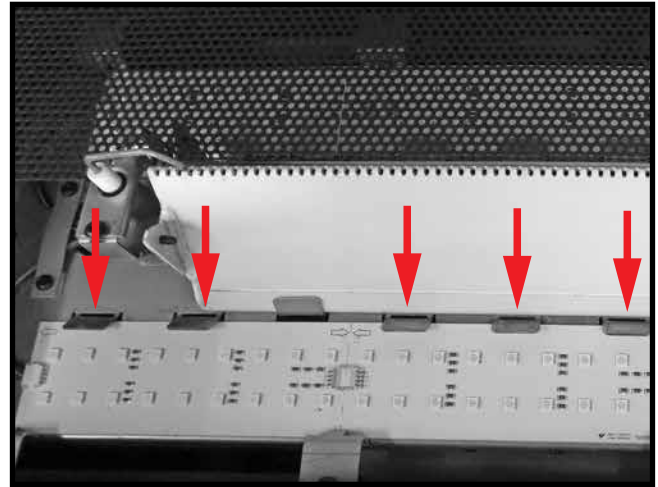

Figure 59: LED strip hold down tabs.
6. The LED sections and rows are held in place by hold down tabs (Figure 59). These tabs can be lifted up so that the LED section can be removed.